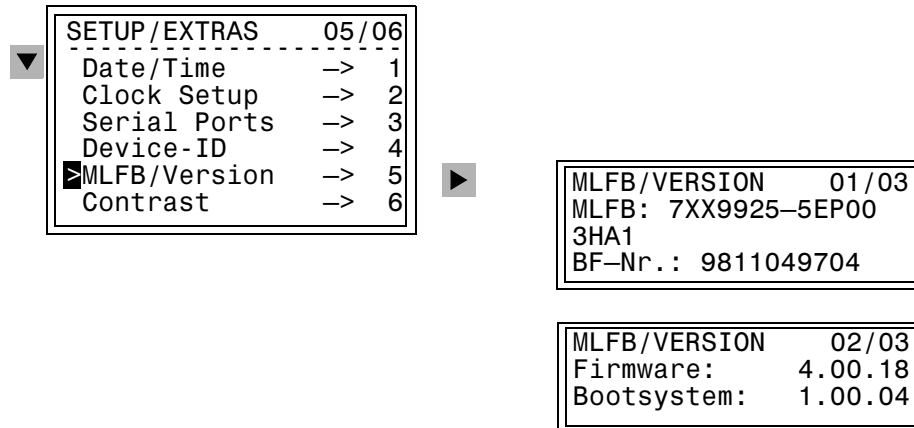

Figure 3-2 Display of Device-specific Data (Example)
- ❑ Using the ▼ key, select the menu item **Setup/Extras** and switch to the selection **SETUP/EXTRAS** using the ▶ key. See Figure 3-2.